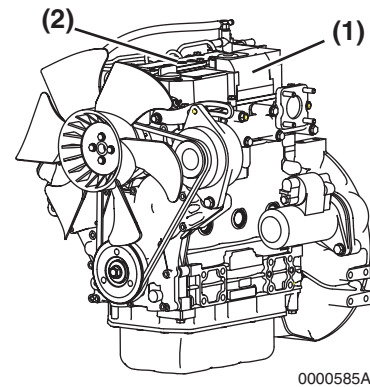

Figure 4-2
Figure 4-2 shows the location of regulatory and safety labels on Yanmar TNE series engines.
The typical location of the emission control information label is shown (Figure 4-2, (1)).
Typical location of the engine nameplate is shown (Figure 4-2, (2)).